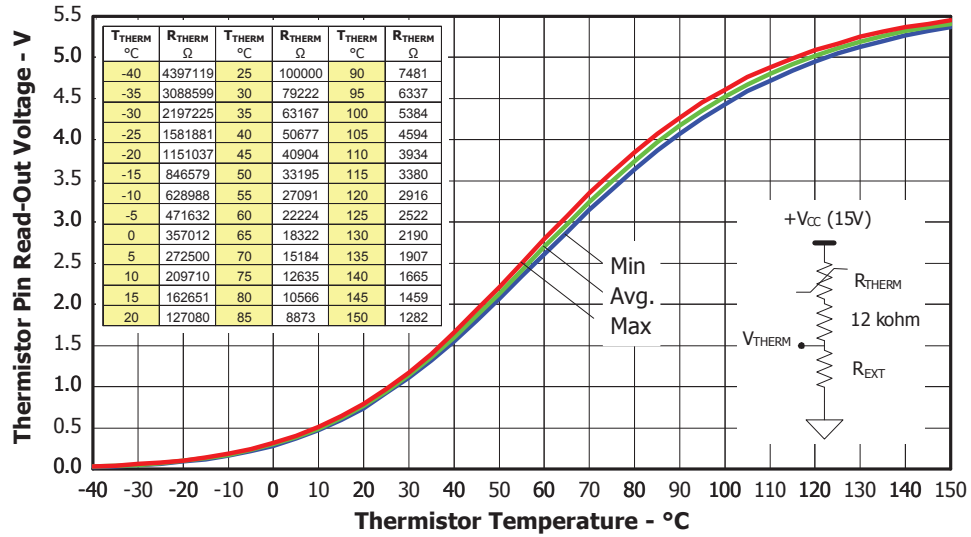

Figure 9. Thermistor Readout vs. Temperature (7.5kohm pull-up resistor, 5V) and Nominal Thermistor Resistance values vs. Temperature Table.
3. Value of the boot-strap capacitors depends upon the switching frequency. Their selection should be made based on IR design tip DN 98-2a, application note AN-1044 or Figure 9. Bootstrap capacitor value must be selected to limit the power dissipation of the internal resistor in series with the VCC. (see maximum ratings Table on page 3).